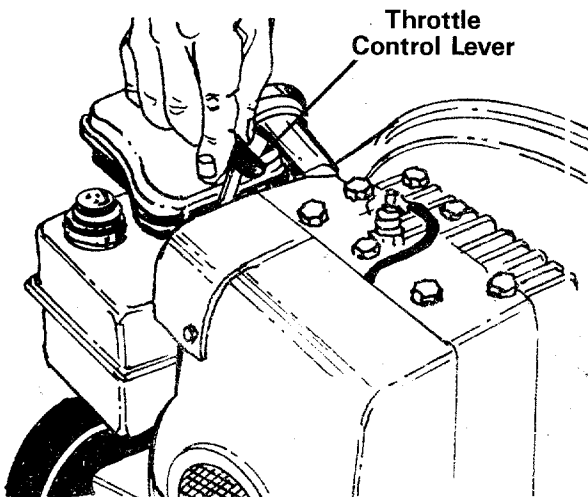

FIGURE 7. - Briggs and Stratton Engine
2. Place the throttle control lever in START position. See figure 7.